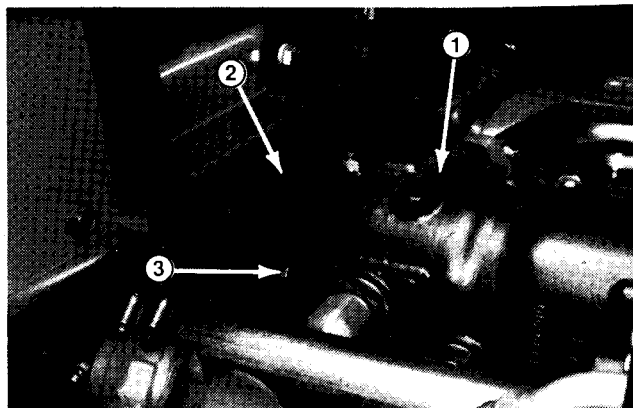

Figure 39
2. Move seat forward. Remove upper and lower grill from in front of radiator. Disconnect six (6) latches and remove radiator cowl. Disconnect four (4) latches and remove lower grill support.
3. Disconnect all hydraulic lines from the steering/auxiliary pump (Fig. 39). Put caps or plugs on all open hydraulic lines to prevent contamination.
4. Remove two (2) capscrews securing steering/auxiliary pump to variable displacement pump. Pull steering auxiliary pump away from variable displacement pump and lift pump out of machine.